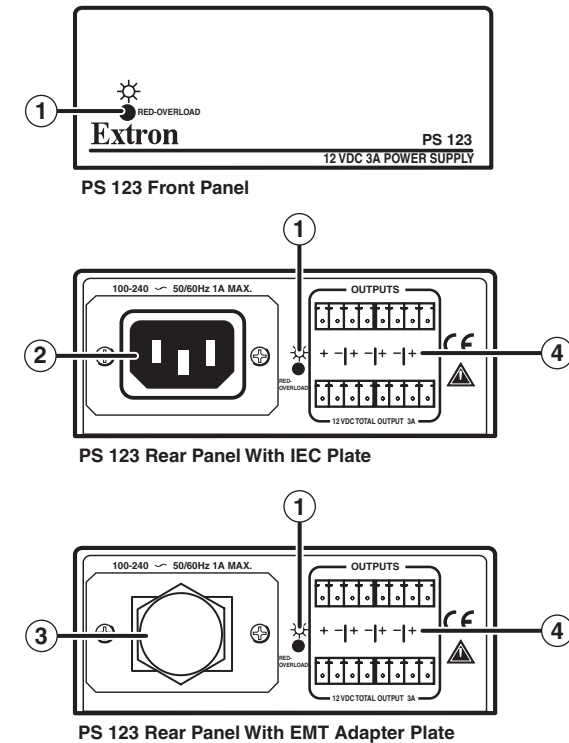
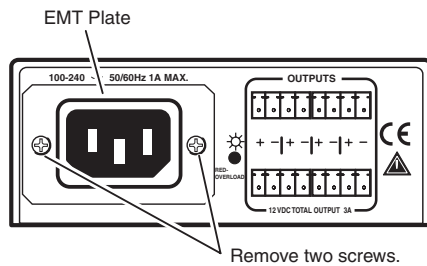

Figure 1 — PS 123 front and rear panels
Figure 3 — Removing the EMT plate
All power and output connections are on the rear panel. LEDs show power status on the front and rear of the power supply (figure 1, ①).
2. Remove and retain the two Phillips head screws that secure the **EMT plate** (figure 3, below) to the PS 123 rear panel.
7. From the rear panel end, pull the EMT plate (see figure 3) out of the enclosure.
9. Install the EMT adapter plate (figure 1, ③, on page 1) (with conduit attached) into the opening from which you removed the EMT plate in step 7. Use the Phillips head screws (figure 3) that you removed in step 2 to attach the adapter plate.